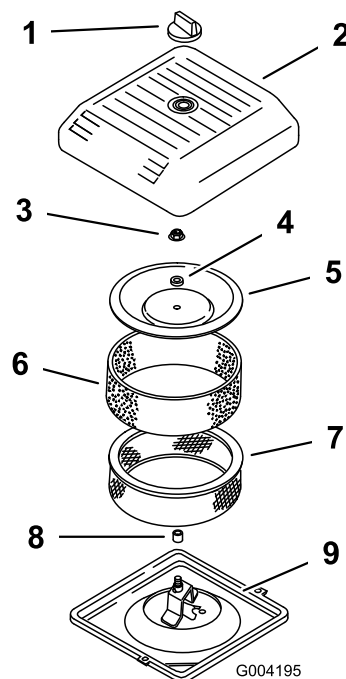

Figure 43
3. Unscrew the knob and remove the air-cleaner cover (Figure 43).
4. Carefully slide the foam pre-filter off of the paper element (Figure 43).
5. Unscrew the cover nut and remove the cover, spacer, and paper filter (Figure 43).
2. Place the air cleaner assembly onto the air cleaner base (Figure 43).
3. Install the cover, spacer and secure it with the cover nut (Figure 43). Torque the nut to 11 N·m (95 in-lb).
4. Install the air cleaner cover and secure with the knob (Figure 43).